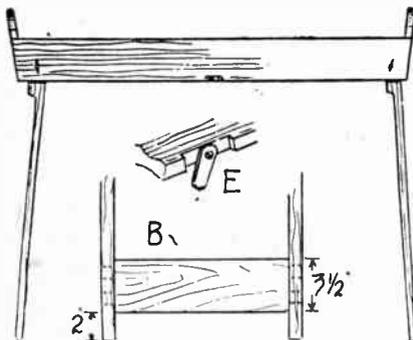

Fig. 1—Side view and details of fixing
The legs are cut to length and the ends trimmed to semi-circles, with $\frac{1}{2}$ in. radius. Holes for the fixing screws are bored in the centres of the semi-circles. These legs are fixed to the sides, inside of course, at the place indicated at (C) in Fig. 3, so they, when pulled down, splay out slightly. Note particularly that the cut-away parts of each leg face the same way, and are not paired. This will be apparent in Fig. 1. Fit the left side legs first, then the correct way to fit the right ones will be seen at once. Any error here will simply result in the legs not folding together properly.
This rail is shown in the inset sketch (B) in Fig. 1. Cut the rails from $\frac{1}{2}$ in. or $\frac{3}{4}$ in. wood, to the correct length, measured between the sides of tray, underneath. The ends are cut to form tenons, 1 in. long and $\frac{3}{4}$ in. apart, and the legs mortised to suit. Glue the rails in and refit the legs to the tray. This completes the job, except finishing.
To keep the legs up after folding, a half button can be employed, as at detail (E) (Fig. 1). These are screwed to the under edges of the tray sides, underneath, of course, and in the centre. A slot should be cut for each, just deep enough to sink the half-button level, and allow the tray to stand firm.